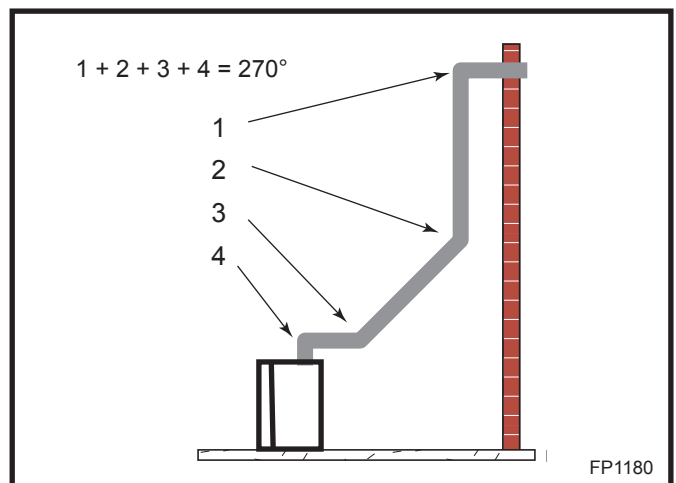

Fig. 14 Maximum elbow usage.
- The maximum number of 45° elbows permitted per side wall installation is two (2). These elbows can be installed in either the vertical or horizontal run.
- The maximum number of elbow degrees in a system is 270°. (Fig. 14)